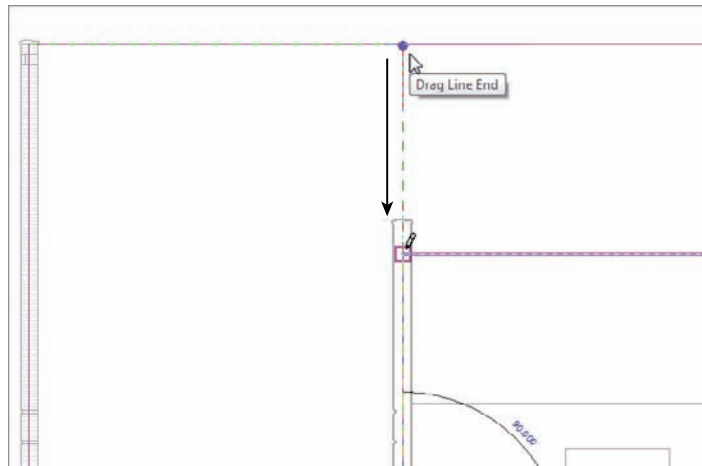

FIGURE 3.48 Closing the wall by using grips to stretch the line
15. You now have a closed loop, as shown in Figure 3.48.